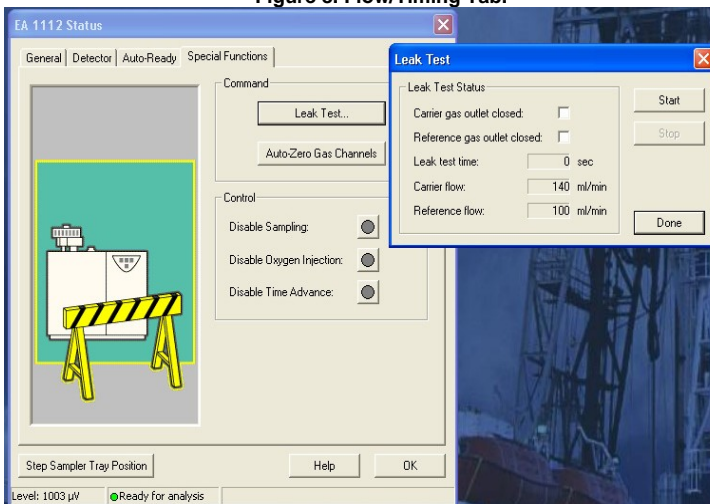

Figure 9. Special Functions Tab and Leak Test Screen.
8. Select the **Special Functions** tab (Figure 9).